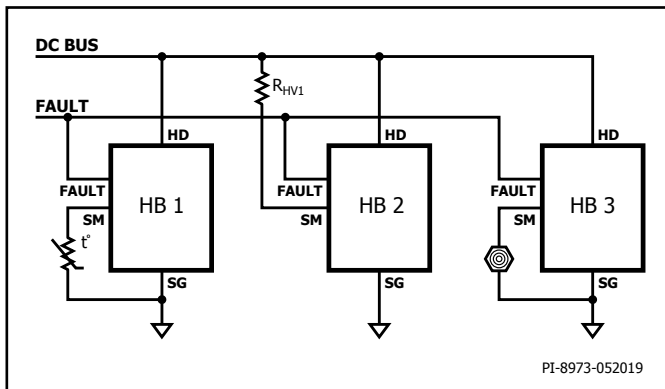

Figure 8. DC Bus Monitoring Implementation with a Single BridgeSwitch Device.
BridgeSwitch ICs offer DC bus overvoltage (OV) protection through its SM pin. For a typical implementation, one of the three devices in a 3-phase inverter monitors the DC bus through a resistor connected between its SM pin and the DC bus (see device HB 2 in Figure 8). Once the device detects a DC bus overvoltage fault, it inhibits switching of both integrated FREDFETs and reports the status update to the system micro-controller through the single-wire FAULT interface. The micro-controller then shuts down the entire inverter to protect the other two devices. Regular operation could resume once the device monitoring the DC bus reports clearing of the DC bus OV fault. This implementation allows using the SM pin of the other two devices for monitoring additional system parameter. For example, motor temperature or vibration.